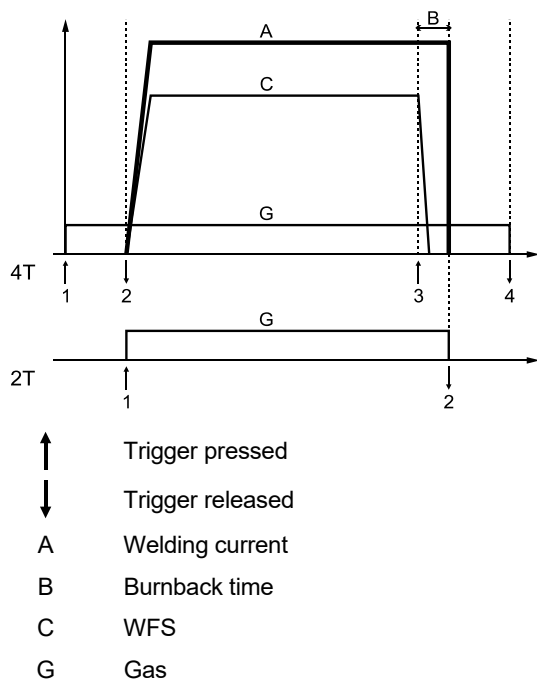

Figure 9.
20. Gun Mode Switch: It enables selection of 2-step or 4-step gun mode. The functionality of 2T/4T mode is shown in the Figure 9.